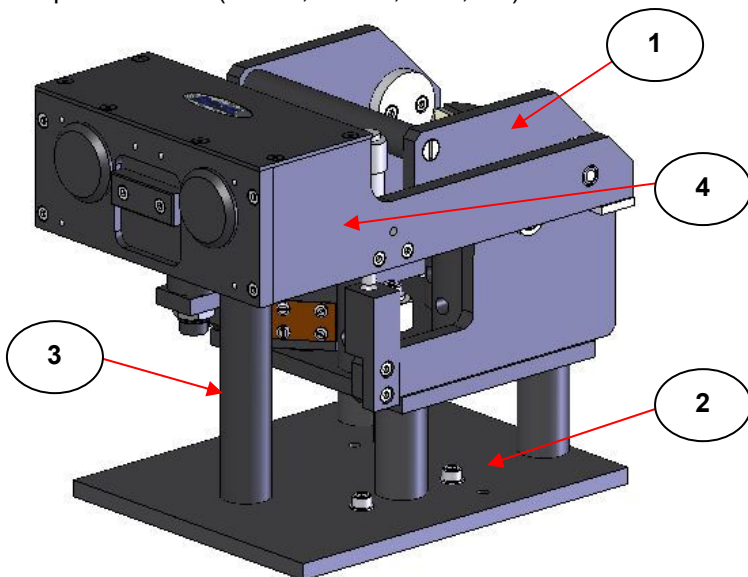
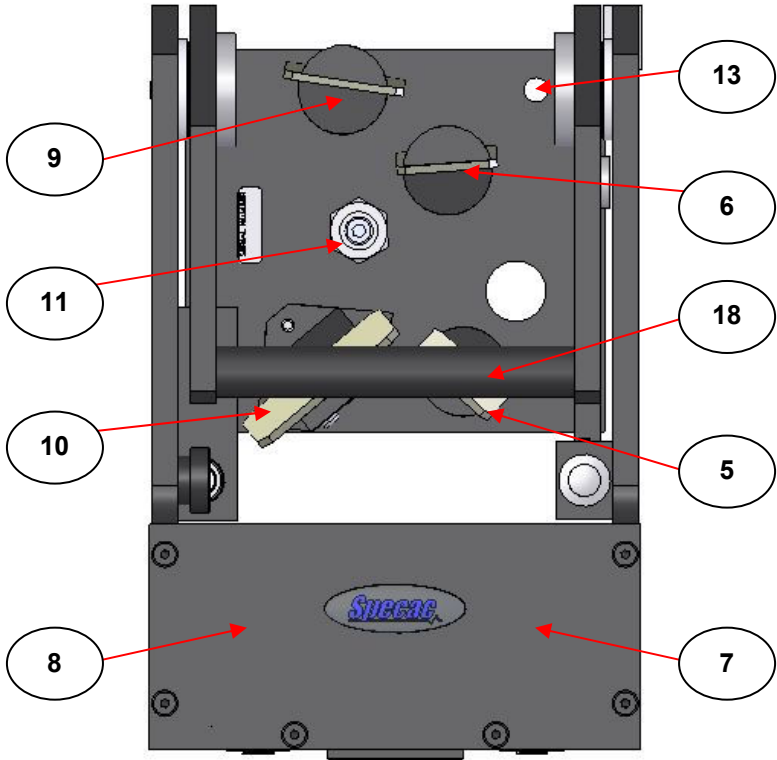
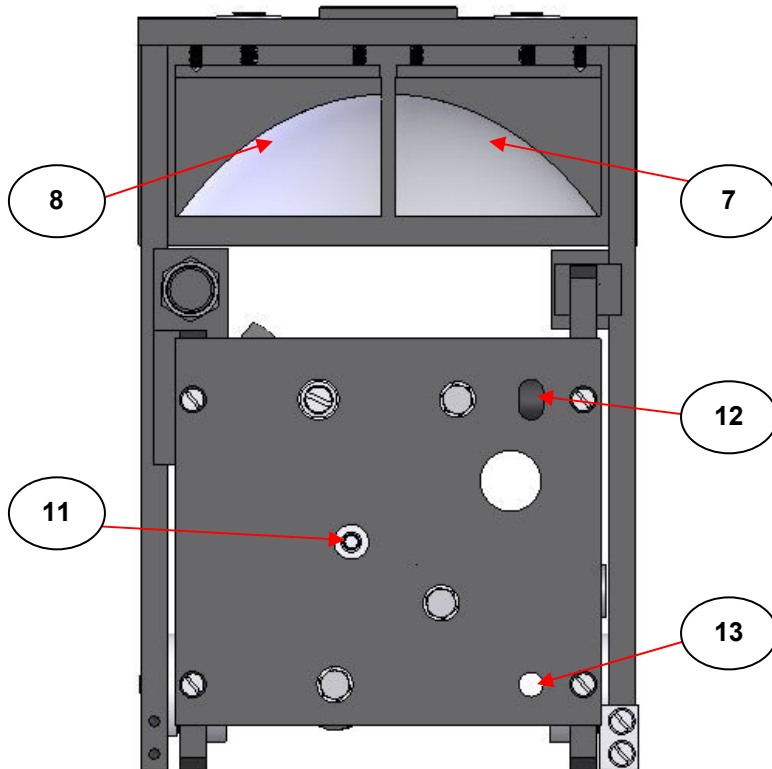

Fig 4. R to L Beam Selector™ Accessory Fitted to an Appropriate R to L Beam Baseplate (e.g. for Nicolet iS10)
Fig 5. Top View of R to L Beam Selector™ Optical Unit
Fig 6. Underside View of R to L Selector™ Optical Unit
Fig 4 shows an **R to L beam Selector™** optical unit (1) when fitted to its corresponding **R to L Selector™** baseplate assembly (2) and in the **Operating Position**. In this case for Fig 4, the combination of the parts as shown forms the Selector™ accessory that can be used in a variety of Nicolet Spectrometers (Nexus, Avatar, iS10, etc).
Accordingly, similar to an L to R Selector™, Fig 5 shows a top view of an **R to L Selector™** optical unit alone and Fig 6 shows the same **R to L Selector™** optical unit but from the underside.
From the Figs 5 and 6, the light beam sequence for passage of light through the Selector™ optical unit for an **R to L** direction is as follows:-
in a cup that is positioned on top of the sample post (3) – see Fig 4. (In Fig 5 the E1 mirror (7) has been indicated, but it is positioned underneath the top cover of the ellipsoid mirrors arm assembly (4) – see Fig 4.) It is easier to see E1 (7) from the underside view of Fig 6.
In summary, the beam sequence for an **R to L Selector™** as indicated for the mirrors from **Figs 5 and 6** is:-